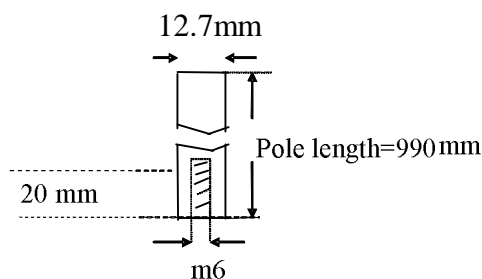

Fig.1. Pole Dimensions
- 3.1. The pole is shown in Fig.1. The pole should have the dimension shown in Fig.1, with the length of 990 mm and outer diameter of 12.7 mm with a tolerance of 5%. The pole must have uniform cross section and weigh **150** grams with in a tolerance of 5 %. When the pole is placed with its centre on the middle of a support surface of 1.5 cm width, with both sides overhanging, the pole should not topple. A few such poles will be collected from participants and the competition pole will be picked arbitrarily from the lot by the judge.